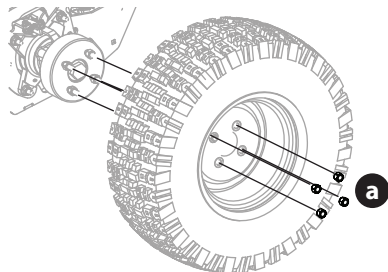

Figure 34
1. With the tires on the ground, loosen, but do not remove the four lug nuts (a) (Figure 34 on page 26).
- Torque the lug nuts (a) to 65-70 ft-lbs (88-95 N-m) in a crisscross pattern (Figure 34).